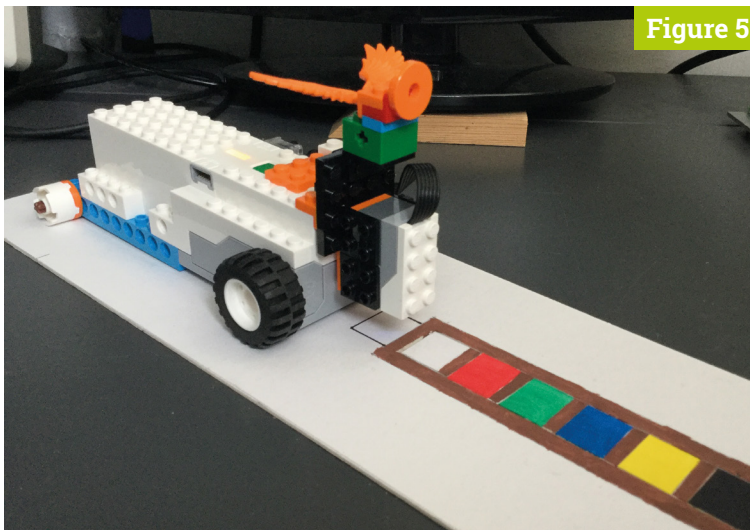

Figure 5
▶ **Figure 5** Si-clops and a loaded sample holder
We used low-cost acrylic paints from an art shop to paint our tiles; there is a 4 mm strip down the edge of the tile and we painted it brown. We found that brown was a good neutral colour that did not affect the detection of adjacent colours. Then we painted the main colour in the rest of the tile. For a full set of tiles you need eight of each colour, but six is enough in practice. Also, the mounting board we used had a black back, so there is no need to make any black tiles – just simply turn any tile over. **Figure 5** shows the finished assembly.